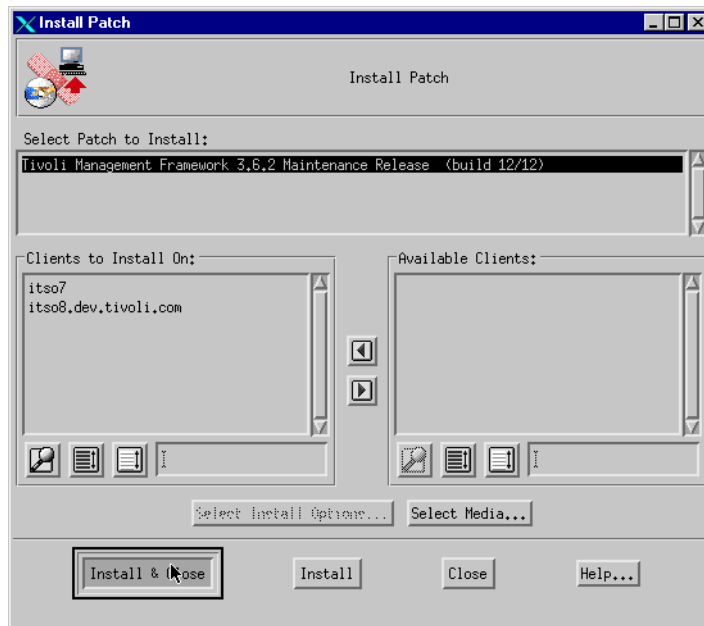

Figure 47. Install Patch
16. In the Install Patch window, shown in Figure 47 on page 64, select **Tivoli Management Framework 3.6.2. Maintenance Release**, and then select the clients to install the patch.